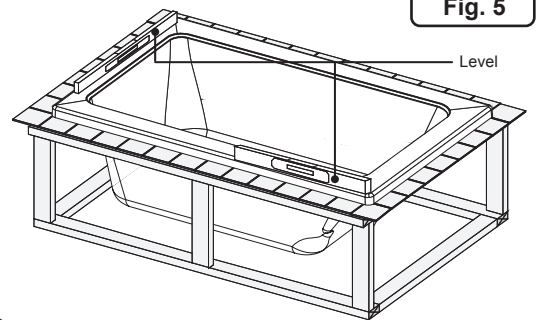

Fig. 5
3. The bathtub must be set level. To check, use a level on top of the ledges on both ends of tub and on top of threshold (Figure 5).